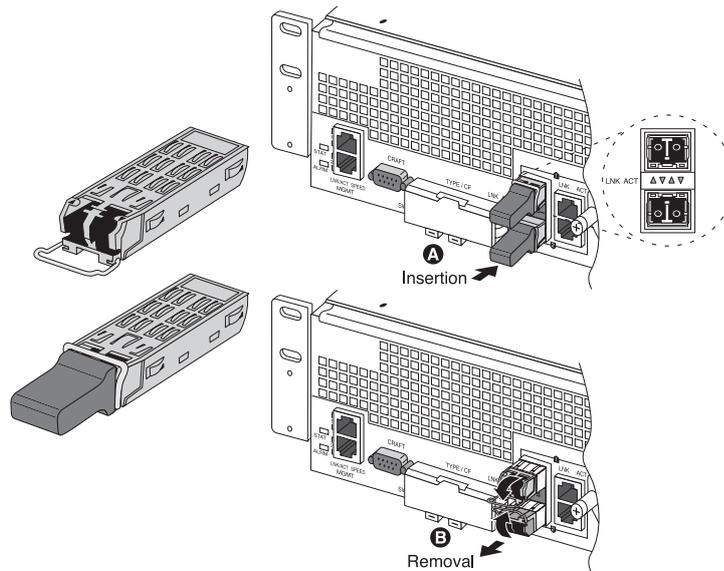

Figure 10 Installing an SFP Transceiver
3. With the transceiver aligned with the connector in the chassis front panel or MIC front panel (as shown in Figure 10), slide the transceiver into the opening for the port until the rear connector is seated and the locking mechanism snaps into place. In Figure 10, the SFP is aligned with an upper port, either native or MIC; to install the SFP in a lower port, rotate the SFP 180°.